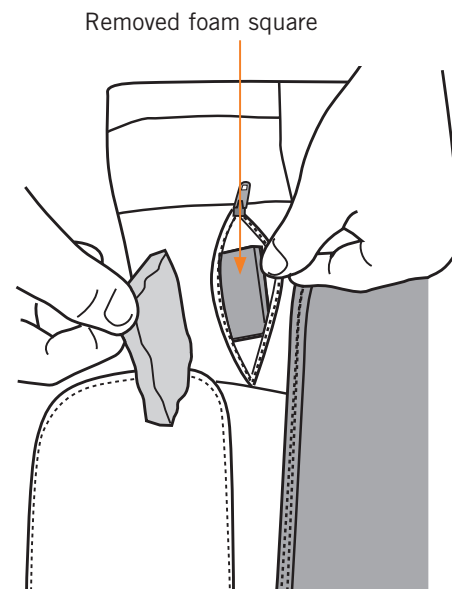

Fig.24
2. Unzip the pocket and remove the foam square (Fig.24).